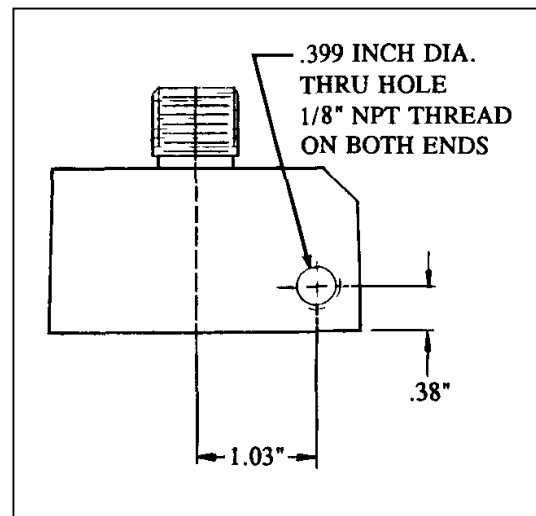

Figure 2-4. In-line Electrode Holder Modification for Water Cooling
If forced cooling is required, drill a .399 inch diameter hole in the Upper and Lower In-Line Electrode Holder as shown in Figure 2-4. Tap a 1/4 NPT standard pipe thread into both ends of the hole.
- 1 Reference Figure 2-4. Verify that the THERMODE ADAPTER BLOCK, item [1], has a single separate WELD TERMINAL, item [2].